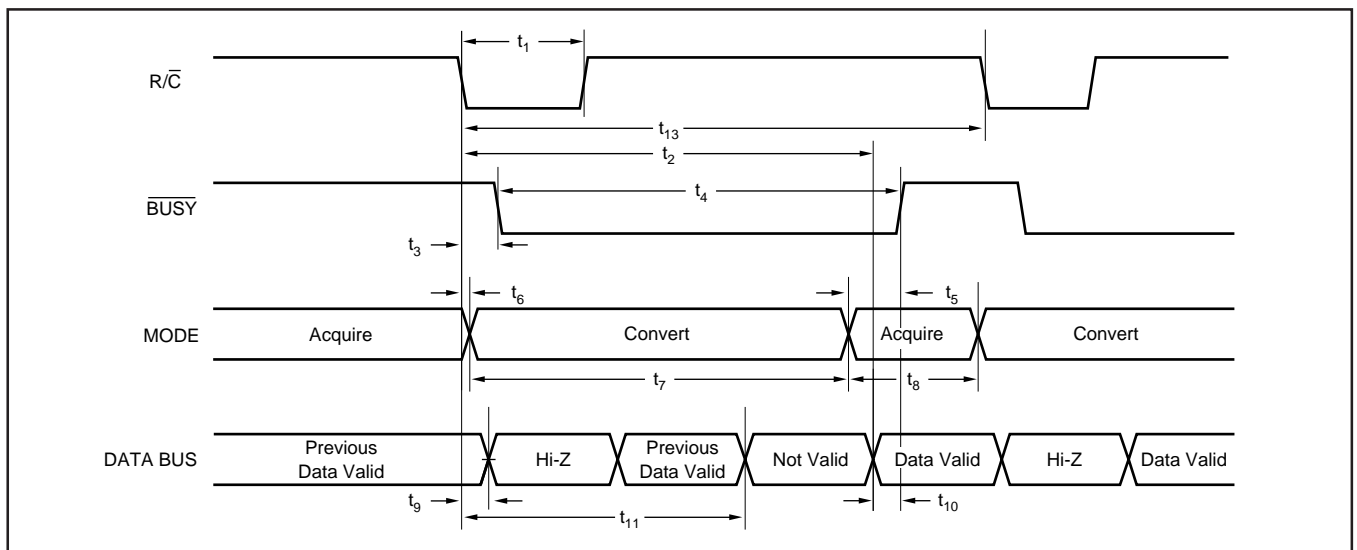

FIGURE 3. Conversion Timing with Outputs Enabled after Conversion (\overline{CS} Tied LOW).
Table II for a summary of \overline{CS} , $\overline{R/\overline{C}}$, and \overline{BUSY} states and Figures 3 through 5 for timing diagrams.
NOTE: (1) See Figures 3 and 4 for constraints on data valid from conversion "n-1".
After conversion 'n' is completed and the output registers have been updated, \overline{BUSY} (pin 26) will go HIGH. Valid data from conversion 'n' will be available on D15-D0 (pins 6-13 and 15-22). \overline{BUSY} going HIGH can be used to latch the data. Refer to Table IV and Figures 3 to 5 for timing specifications.
After conversion 'n' has been initiated, valid data from conversion 'n – 1' can be read and will be valid up to $7\mu s$ after the start of conversion 'n'. Do not attempt to read data from $7\mu s$ after the start of conversion 'n' until \overline{BUSY} (pin 26) goes HIGH; this may result in reading invalid data. Refer to Table IV and Figures 3 to 5 for timing specifications.
The number of control lines can be reduced by tying \overline{CS} LOW while using $\overline{R/\overline{C}}$ to initiate conversions and activate the output mode of the converter (see Figure 3).